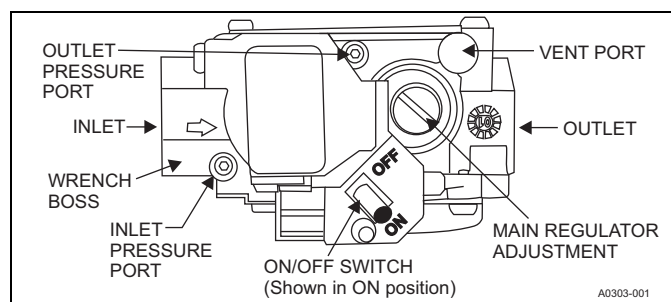

FIGURE 9: Gas Valve
Refer to Figure 9.
1. Remove the cap from the valve body. See Figure 9 for location.